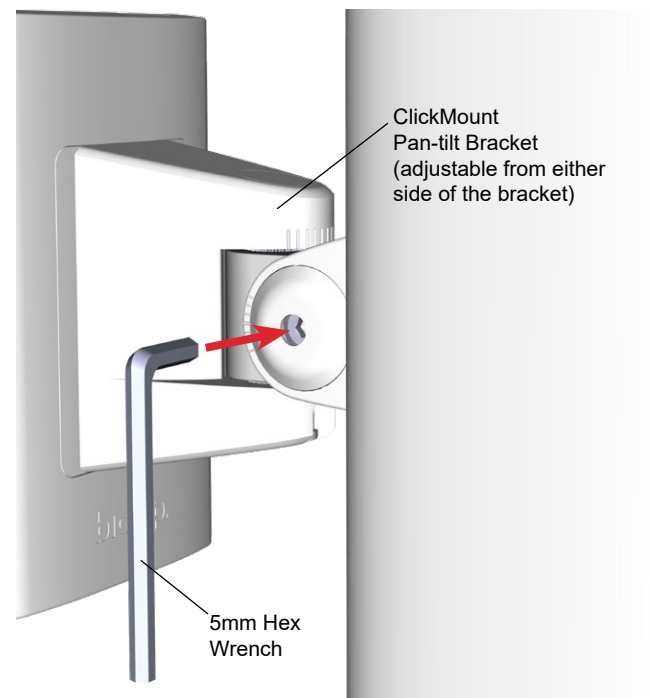

Figure 7. Insert and turn the hex wrench to loosen or tighten the bracket to adjust the aiming angle
- Insert a 5mm hex wrench into the bracket as shown (Figure 7) and loosen. The adjustment mechanism can be accessed from either side of the bracket.